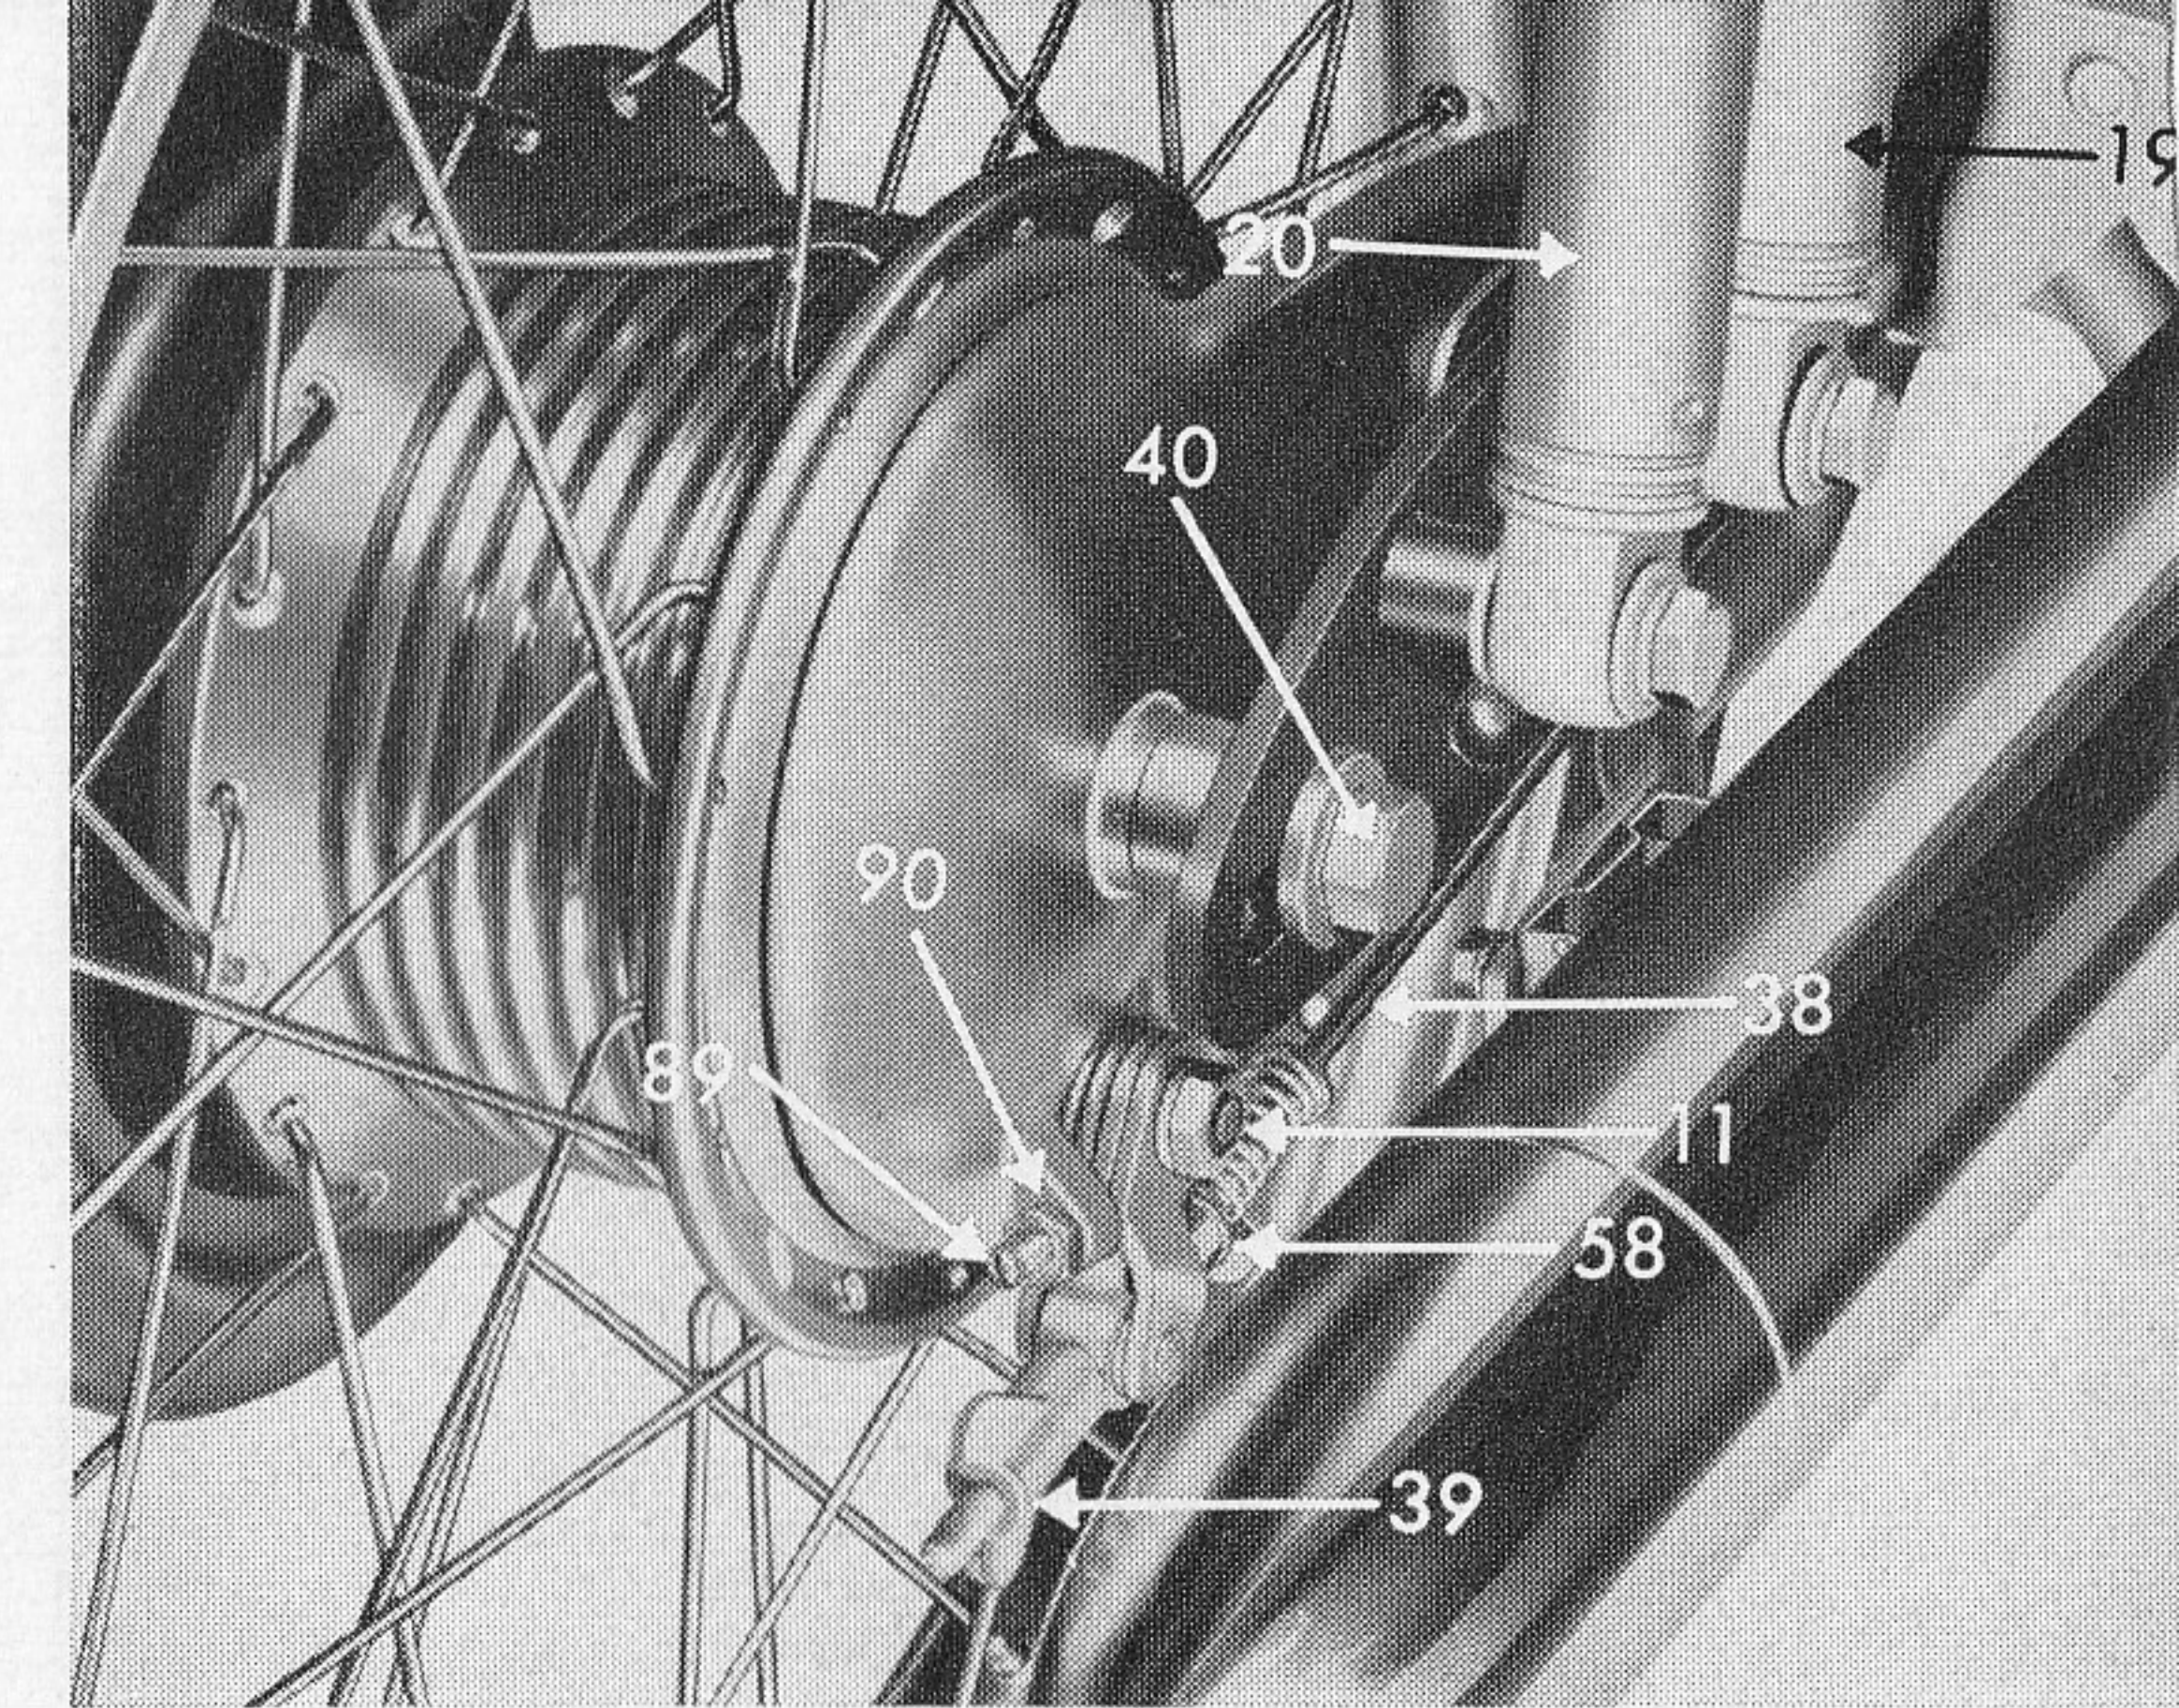
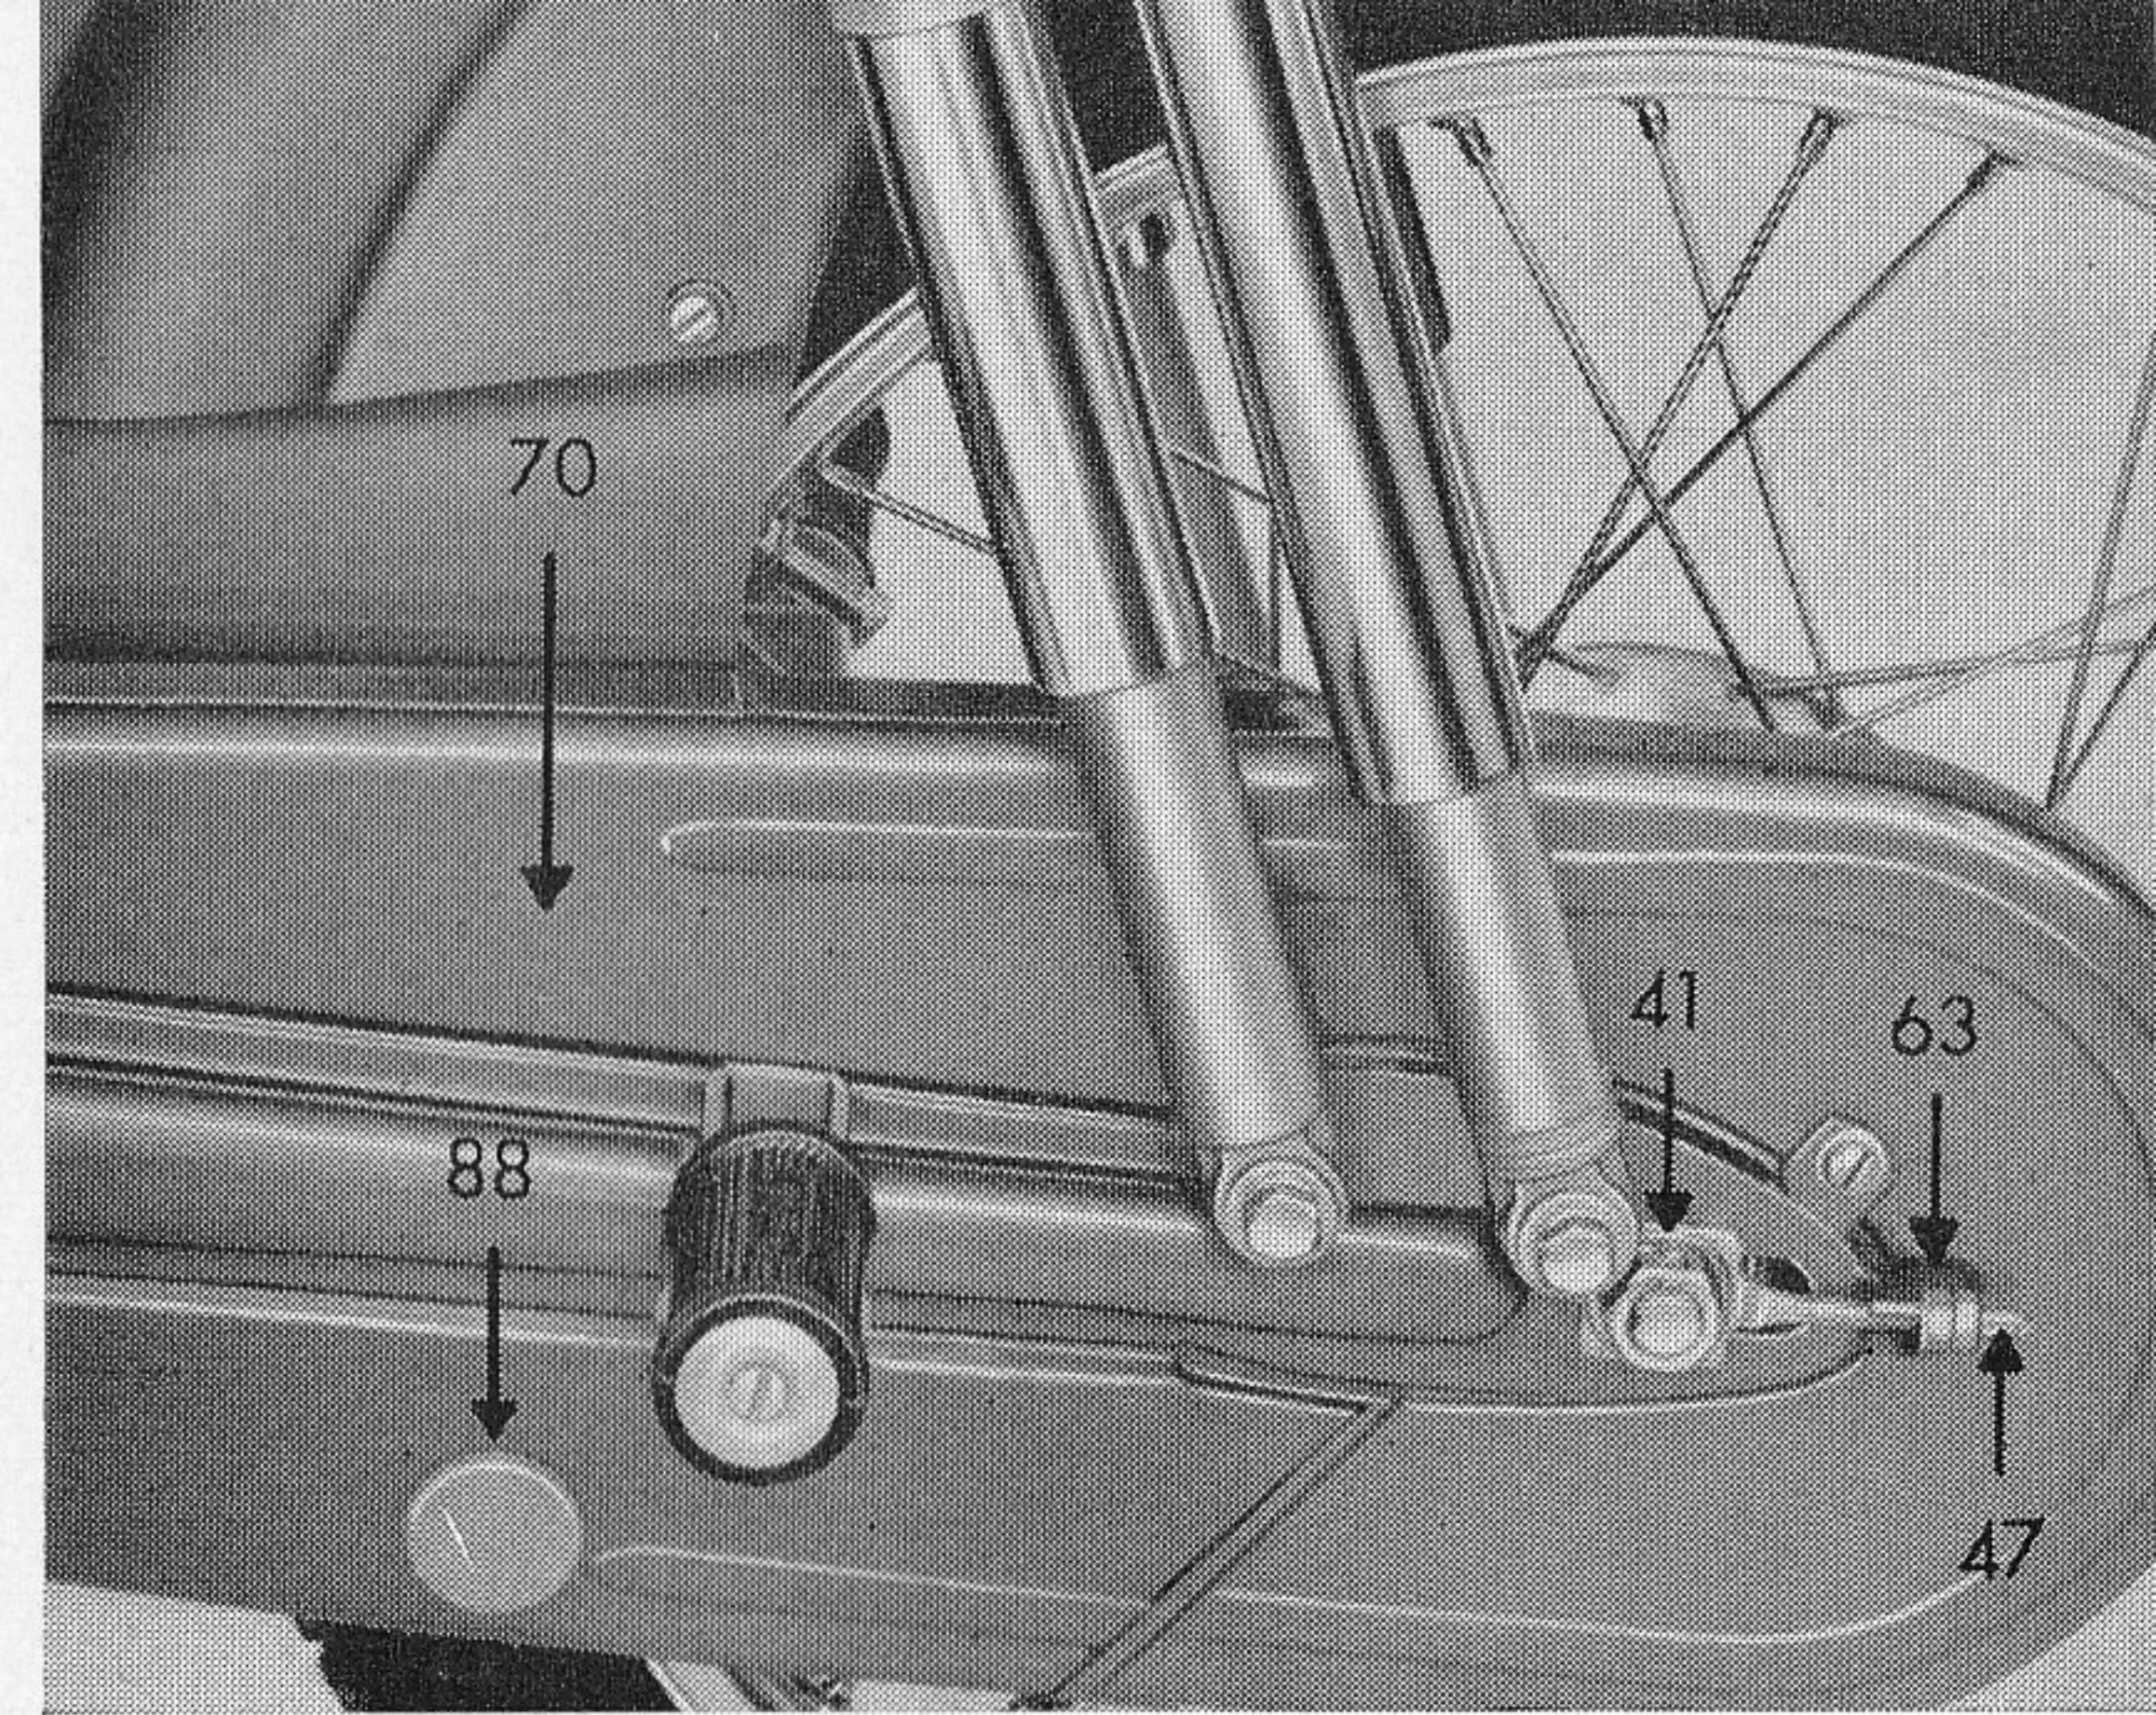

Fig. 10
Fig. 12
8. **Taking Off Rear Wheel** (fig. 10)
- b) Disconnect brake lever and linkage 38 by unscrewing wing nut 39 (fig. 10) and pulling back connecting clip
- c) Release knock-out spindle 40 (fig. 10) on the right-hand side of machine
After re-assembly, the knock-out spindle 40 must be tightened securely. Nut 11 (fig. 10), which secures the brake lever, must not be slackened.
(see fig. 10) is by adjuster 89 on the brake lever at the rear wheel brake plate. Slacken locknut 90, then turn adjuster 89 clockwise until the wheel still just turns freely. Then secure locknut 90 again.
In particular, make sure that brake linings are kept free from oil or grease, otherwise the brakes will slip and fail. The brake linkage 38 (fig. 10) must never be bent. When riding downhill, always use both brakes.
11. Chain Tension (figs. 10 and 12)
To tension the chain, slacken knock-out spindle 40 (fig. 10) at the right-hand side of machine and nut 41 (fig. 12) on sprocket flange on left-hand side of machine, as well as chain tensioning nut or locknut 63 on chain tensioner 47 (fig. 12).
Then turn front chain tensioning nut 63 (fig. 12) clockwise until chain tension is correct (about $\frac{1}{3}$ " = 1 cm slack). After
adjustment, secure nut 63, nut 41 (fig. 12) and spindle 40.
The chain case has an inspection hole, closed by rubber plug 88, to allow checking of chain slack (see fig. 12).